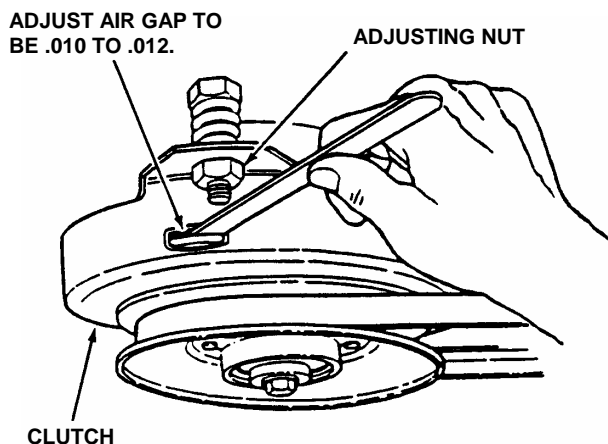

FIGURE 4.2
1. With the Ignition Switch moved to "STOP" and the Blade Switch moved to "OFF", locate the three air gap check "SLOTS" as shown in Figure 4.2.